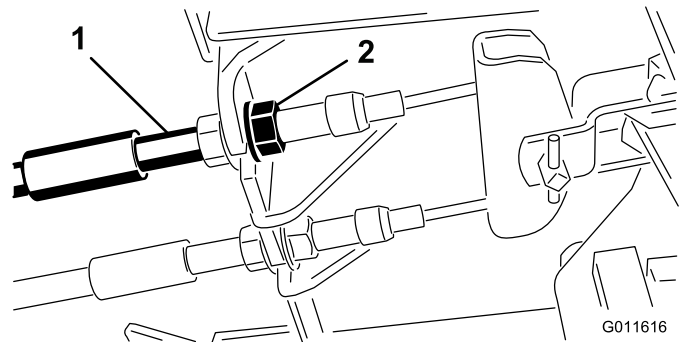

Figure 65
1. To reduce free travel of the brake pedals, tighten the brakes by loosening the front nut on the threaded end of the brake cable (Figure 65).